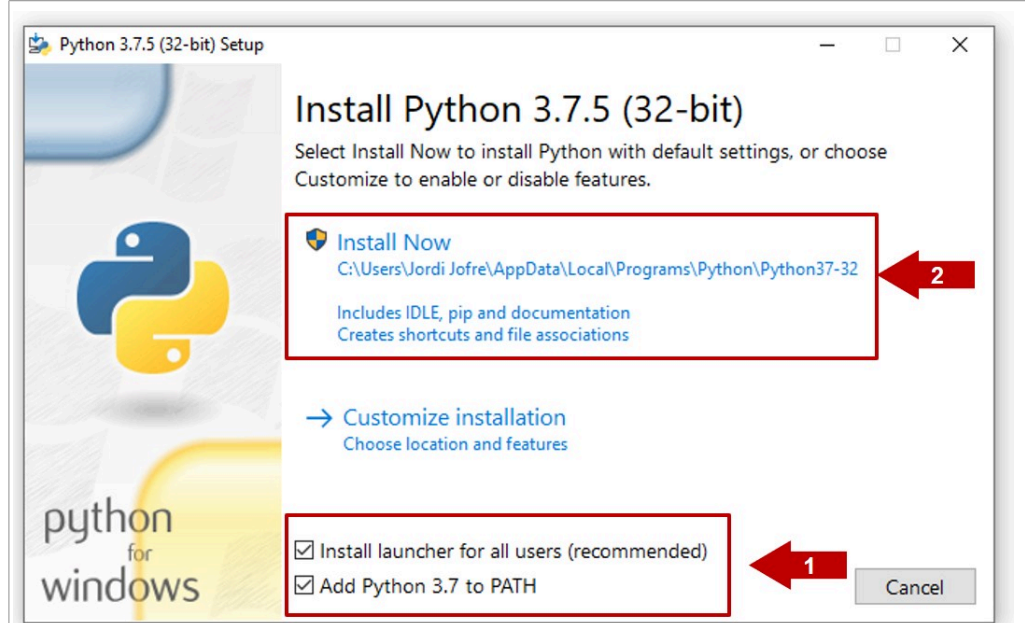

Figure 91. Install Python 3.5.x 32 bit for Windows
- 2. Double click on the downloaded installer file. Select the "Install launcher for all users" and "Add Python 3.7 to Path" options and click *Install Now* as indicated in Figure 91: